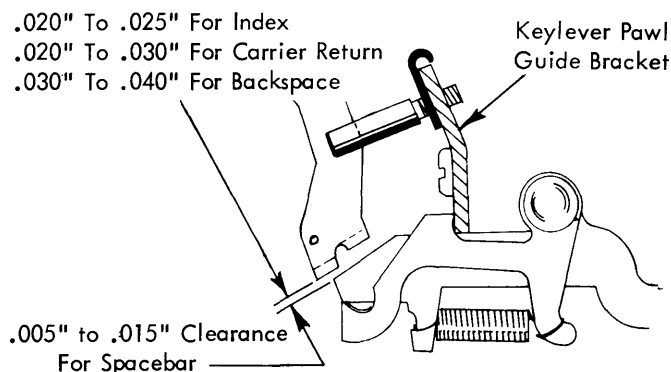

FIGURE 105. Keylever Pawl To Interposer Clearance Adjustment
- a. Adjust the height of the interposers by positioning the keylever pawl guide bracket up or down to obtain a clearance of $.020''$ to $.025''$ between the index keylever pawl and the index interposer at rest (Fig. 105). The keylever pawl guide bracket should be kept horizontal.
- b. The adjusting slot in the carrier return keylever should be formed to obtain $.020''$ to $.030''$ clearance between the keylever pawl and the interposer at rest (Fig. 105).
- c. The adjusting slot in the backspace keylever should be formed to obtain $.030''$ to $.040''$ clearance between the keylever pawl and the interposer at rest (Fig. 105).
- d. Adjust the spacebar lever eccentric with the high part forward to obtain a keylever pawl to interposer clearance of $.005''$ to $.015''$ (Fig. 105).